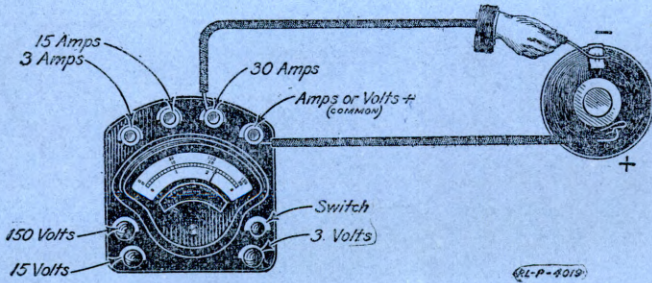

Fig. 6.—Method of making short-circuit test of type BA-10 cell.
(See Fig. 5 and Fig. 6.) The three terminals marked “3 Amps,” “15 Amps,” and “30 Amps” are the negative terminals. The positive or “Amps +” terminal is the same terminal used for the “Volts +” connection. When measuring the amperage of a dry cell or battery one terminal of the meter (usually the positive terminal) is connected directly to the positive terminal of the cell or
10. Measure the amperage of the BA-10 cell using the terminal marked “30 Amps” and “Amps +” as shown in Fig. 6. Record the reading in the table prepared.